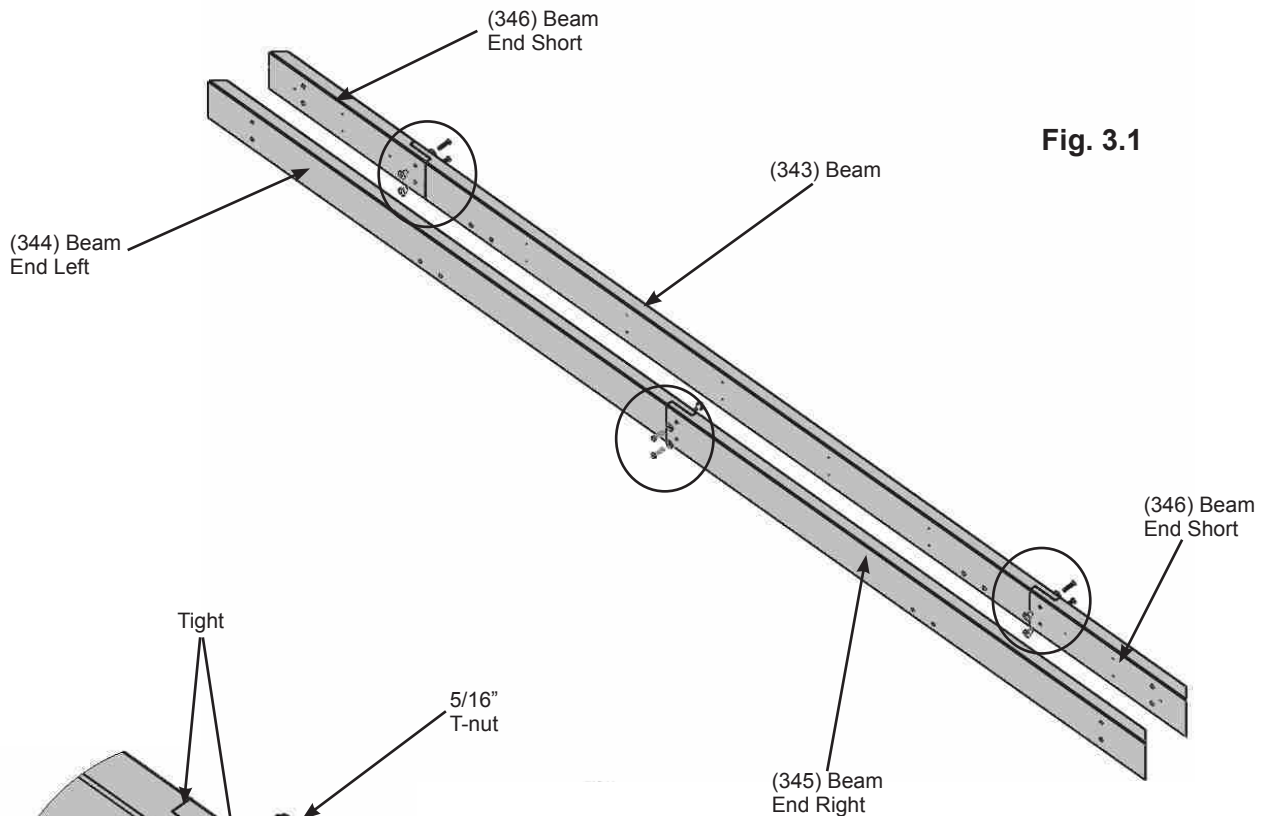

Fig. 3.1
A: Connect one (344) Beam End Left and one (345) Beam End Right using two 5/16 x 1-3/8" Wafer Bolts (with 5/16" flat washer and 5/16" t-nut) as shown in fig. 3.1 and 3.2.
B: Connect one (346) Beam End Short to each end of one (343) Beam using two 5/16 x 1-3/8" Wafer Bolts (with 5/16" flat washer and 5/16" t-nut) per end as shown in fig. 3.1 and 3.2.